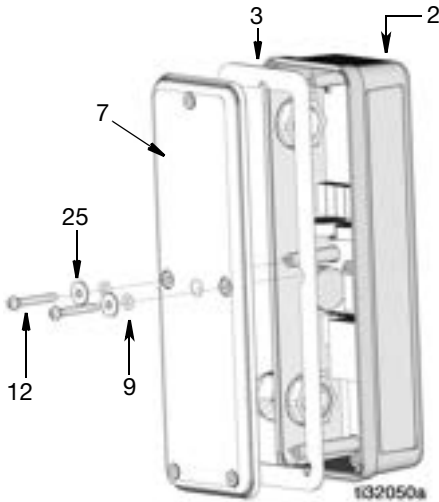

FIG. 11
18. Install seal (3) in PAC cover (7) (FIG. 11).
19. Install cover over PAC enclosure (2). Verify all screw holes in cover and enclosure are correctly aligned (FIG. 11).
20. Install two o-rings (9), washers (25) and screws (12) to secure the cover to the PAC enclosure (2) (FIG. 11).